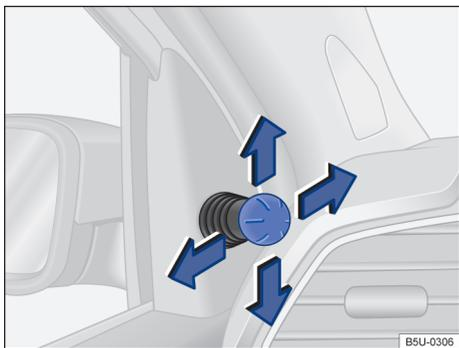

Fig. 71 On the front doors: setting knob for the mechanical exterior mirrors.
- ◀ – Operate the adjustment knob on the trims of the front doors → Fig. 71.